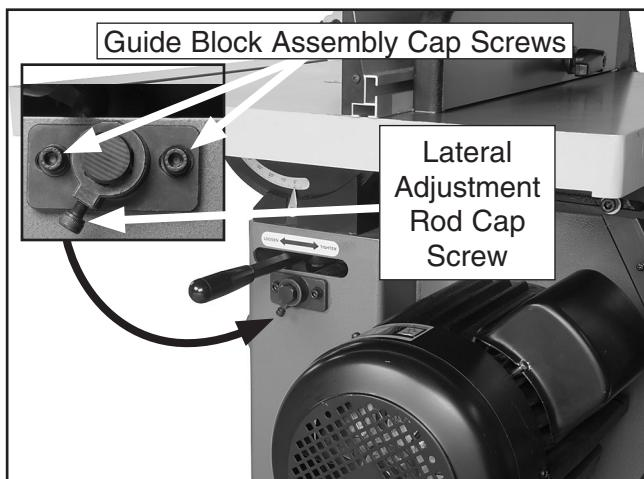

Figure 26. Lower blade guide controls (rear view).
Note: The lateral adjustment rod cap screw and guide block assembly cap screws are located below the table tilt lock lever (see **Figure 26**).
- If the blade is not perpendicular to the support bearing, loosen the lateral adjustment rod cap screw and guide block assembly cap screws (**Figure 26**) and rotate the assembly side-to-side until it is perpendicular to the face of the support bearing, then re-tighten the cap screws.